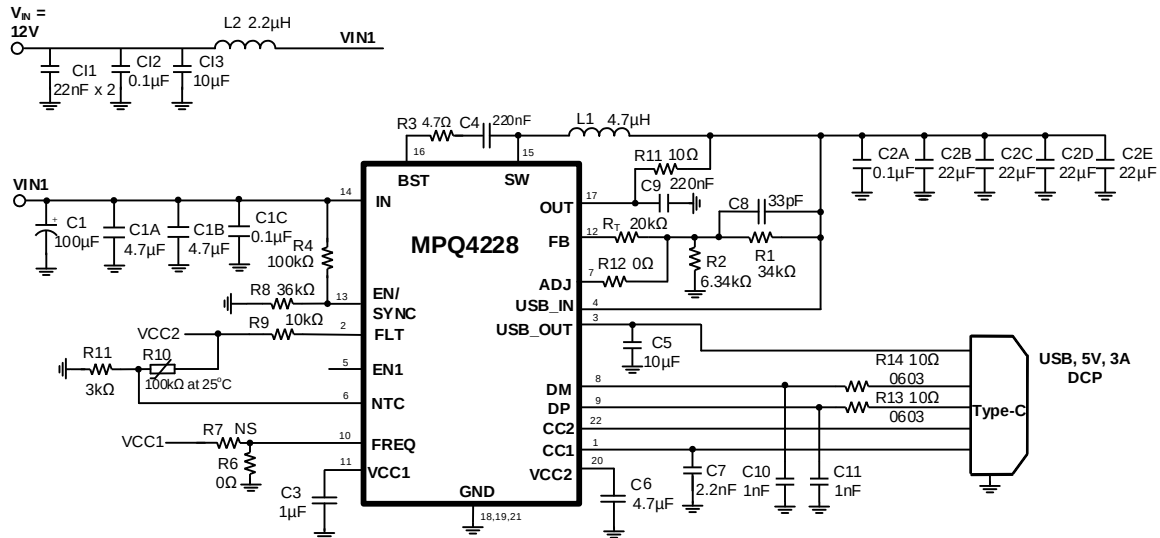

Figure 15: $V_{IN} = 12V$, $V_{OUT} = 5V$, $I_{OUT} = 3A$, $f_{SW} = 420kHz$ (Type-C DFP with BC1.2 DCP Mode)
- 9) The recommended layout is based on Figure 15 on page 26).